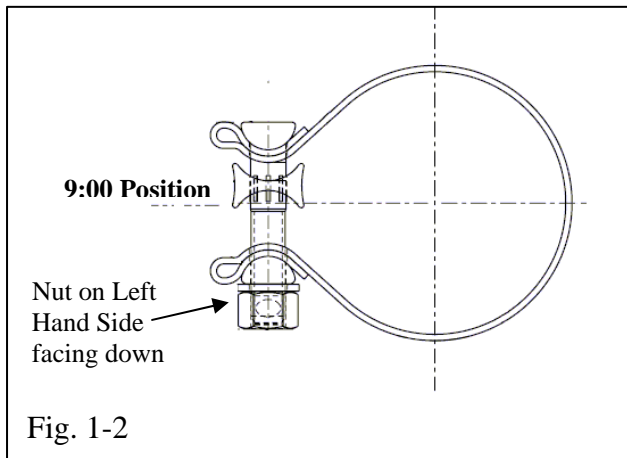

Fig. 1-2
- (1) Locate the bolt of the clamp on the left side of the exhaust tip inlet with the nut facing down as shown. (9:00 Position) (Fig. 1-2)